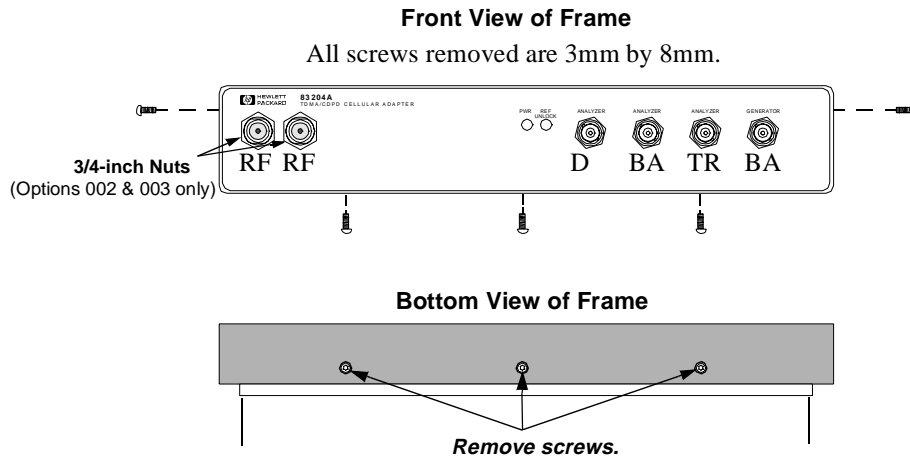

Figure 22 Removing the Frame Screws
3. Remove the 5 frame screws and the two 3/4-inch nuts shown in figure 22.